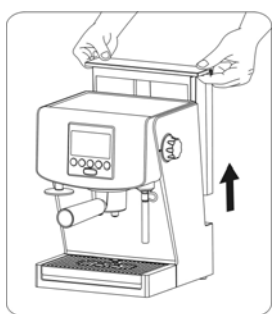

Fig. 11
- 18.3. Remove the water tank (1) and the drip tray (8) together with its grid (7) from the espresso machine (Fig. 11).
- 18.23. Remove the water tank (1) and the drip tray (8) together with its grid (7) from the espresso machine (Fig. 11).